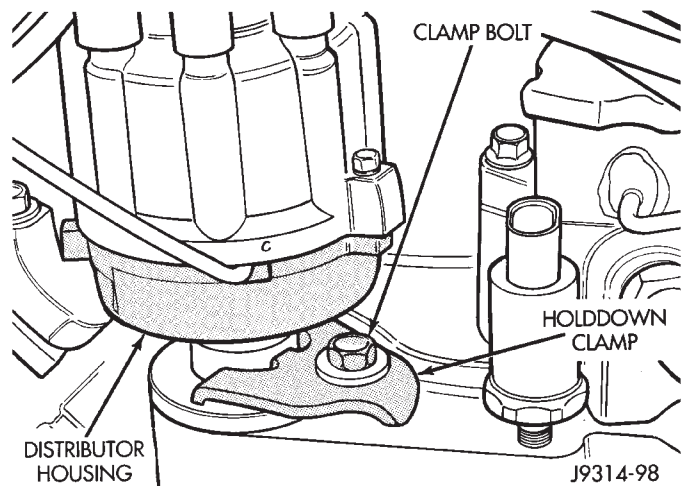

Fig. 35 Distributor Holddown Clamp—5.2L/5.9L Engines
(11) Disconnect camshaft position sensor wiring harness 3-way connector from main engine wiring harness.
(12) Remove distributor rotor from distributor shaft.
(13) Remove distributor holddown clamp bolt and clamp (Fig. 35).
(14) Remove distributor from vehicle.
(7) Tighten clamp holddown bolt (Fig. 35) to 22.5 N·m (200 in. lbs.) torque.
(8) Connect camshaft position sensor wiring harness to main engine harness.
(9) Install distributor cap. Tighten mounting screws.
(10) Install secondary cables to distributor cap.
(11) Refer to following, Checking Distributor Position.